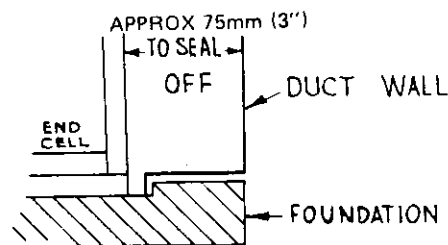

Figure 5. — Fitting of Duct Wall to Base to Prevent Spillover of Water.
8. **Duct Construction** — Duct work and plenum chambers must be of tight construction to prevent air leaks; particularly leakage of uncleaned air into the cleaned air stream. Access doors should be gasketed and provided with a positive means of clamping shut. Time delay switches supplied are not suitable for this. Adequate clearance must be provided to permit sealing off between the duct sides and the cell bank. See Figure 5.